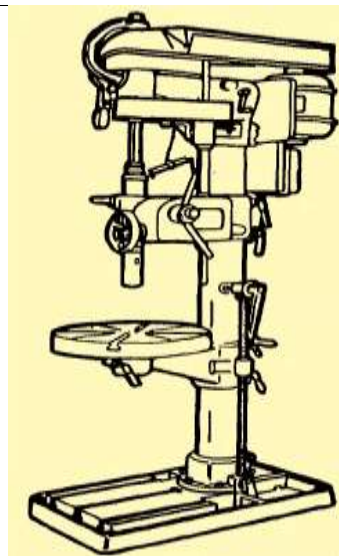

Figure 4-6. Power-feed drilling machine.
**Power-Feed:** The power-feed drilling machines (Figure 4-6) are usually **larger and heavier** than the hand-feed. They are equipped with the ability to feed the cutting tool into the work automatically, at a preset depth of cut per revolution of the spindle, usually in thousandths of an inch per revolution.